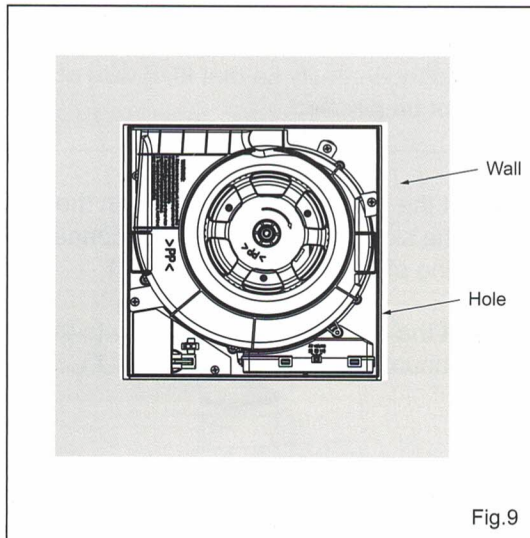

Fig.9
3. Finish the wall work. Wall hole should be aligned with the inside edge of the flange. (Fig.9)